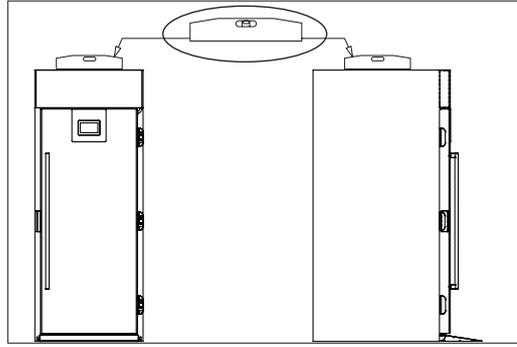

Fig.5
- position the Retarder proofer Bakery Roll-In using a level with possible adjustment of the feet of the metal base (Fig. 5)
Parameters (Fig.5)